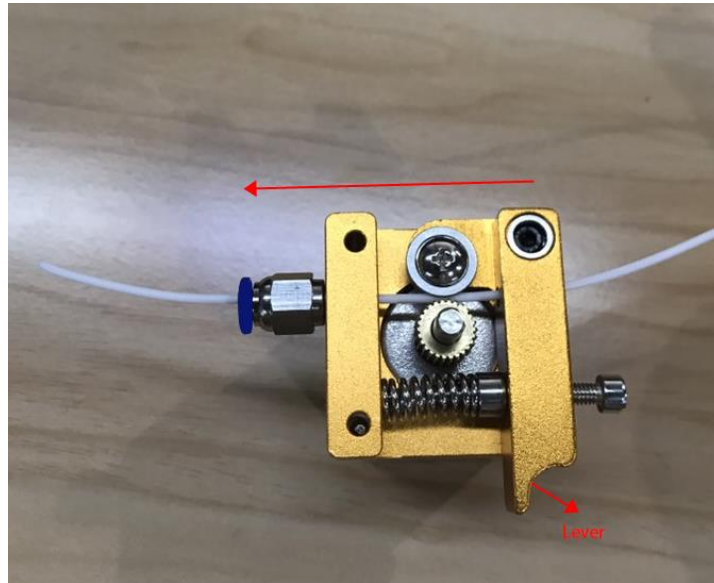

Figure 5.105 Push down the filament
- Step 1** Press down the lever on the extruder, and push down the filament to the bottom of the hole via the pulley, as shown in Figure 5.105.